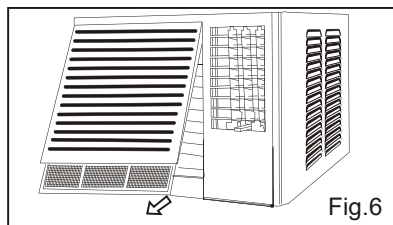

Fig.6
2. Remove the air filter. (Fig.6)